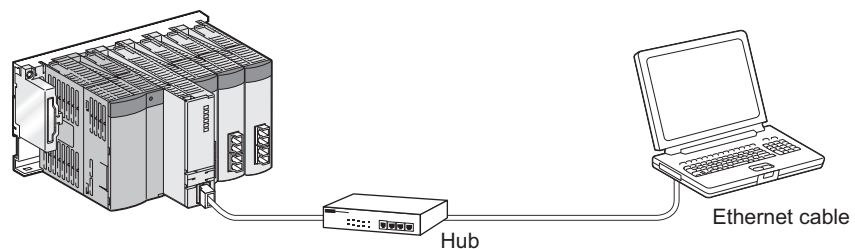

Figure 7.16 Non-direct connection
- 3) The system configuration that connects a Built-in Ethernet port QCPU with an external device using a hub as shown in Figure 7.16 is not regarded as direct connection since the hub is used. Do not check the "Ethernet port direct connection" checkbox on the detailed setting screen.